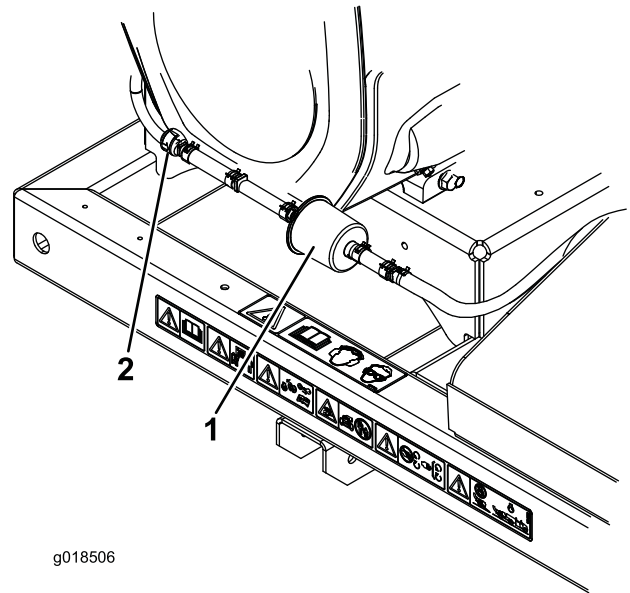

Figure 3
2. Move the spring-type hose clamps on both sides of the carbon canister purge-line filter away from the filter (Figure 3).
3. Remove and discard the carbon filter (Figure 3).
4. Install a new filter into the hose with the arrow on the filter pointing towards the check valve and secure it with the hose clamps (Figure 3).